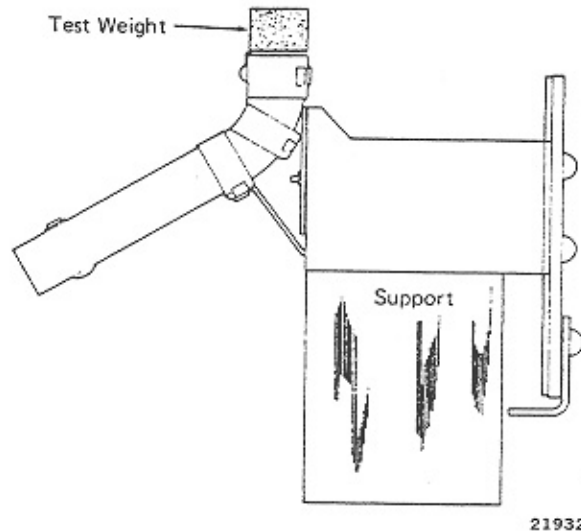

Fig. 18 - Testing Window Wick Lubricator Spring
10. Check narrow window support bearing lubricator spring pressure by placing a weight on the wick assembly as shown in Fig. 18. The check should be made with the wick saturated with oil and all sliding parts cleaned and lubricated. The support bearing lubricator springs should be able to raise a 0.9 kg (2 lb) weight placed on the contact surface after the wick is depressed.